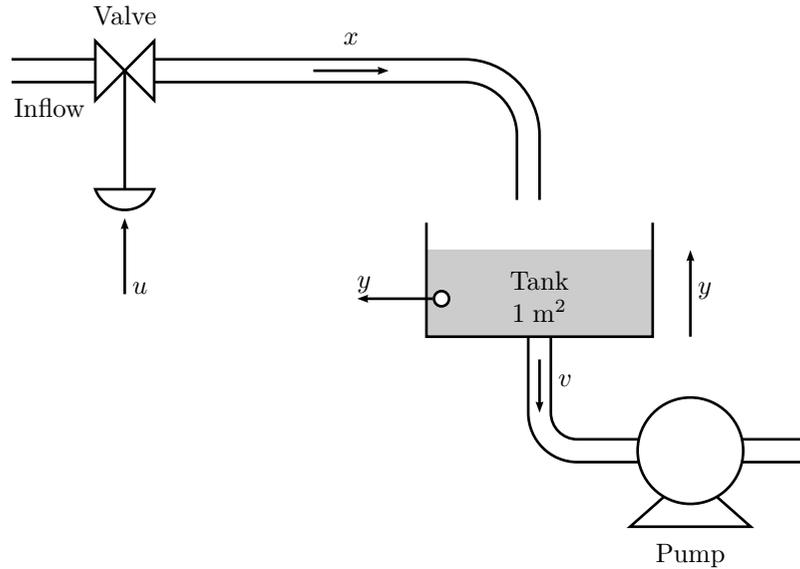

Figure 3.1a
3.1 Consider a part of a process industry, consisting of a valve and a tank. The system is described by Figure 3.1a and the following information: